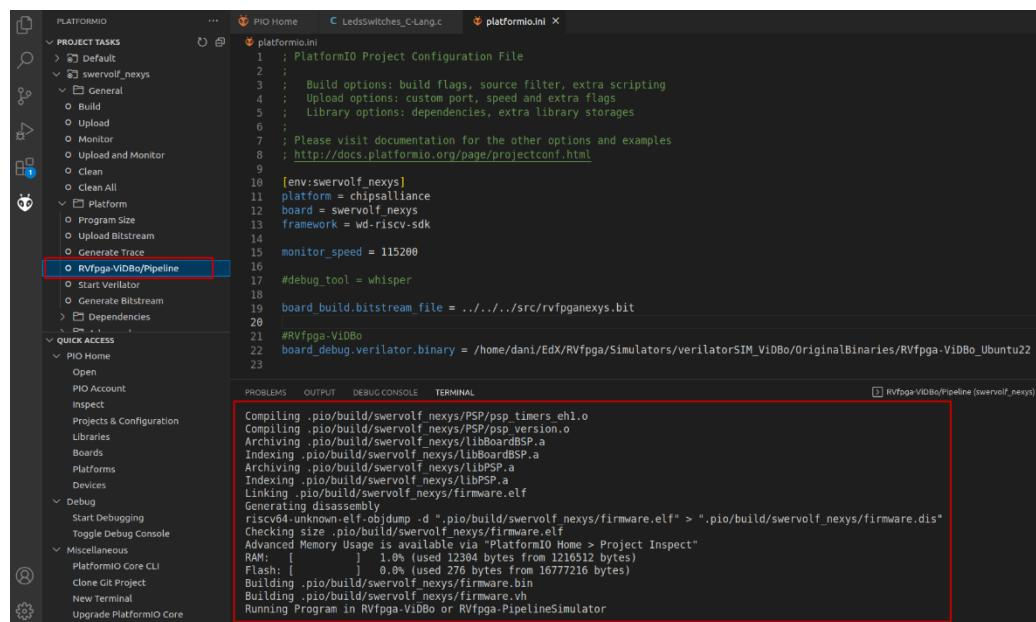

Figure 115. Launching RVfpgaEL2-ViDBo
- Then expand *PROJECT TASKS > env:swervolf_nexys > Platform* and click on **RVfpgaEL2-ViDBo/Pipeline** (see Figure 115). This first compiles the program and then launches the Verilator simulation of the RVfpga SoC running this program.